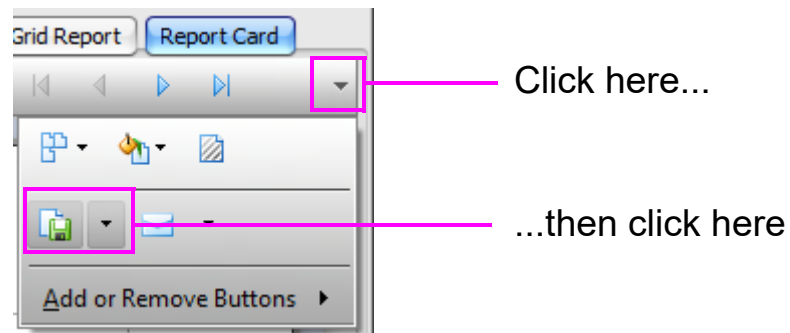

Figure 5-42: Export Document button
5. Click the arrow under the **Report Card** button (Figure 5-42).